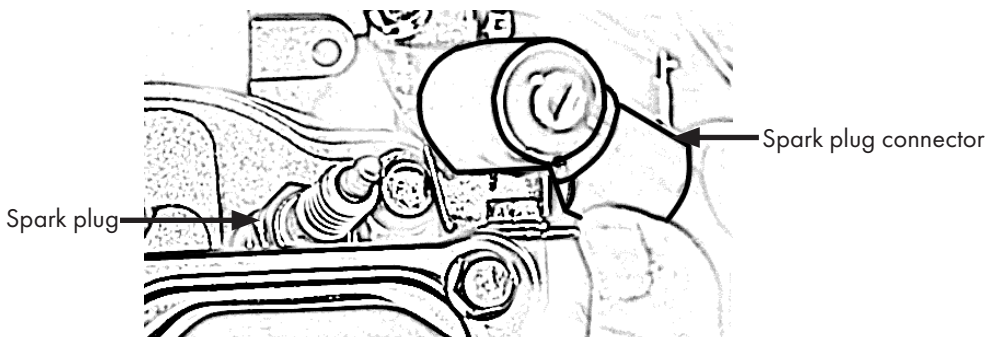

Figure 25
- Remove the spark plug cap, Fig. 25.